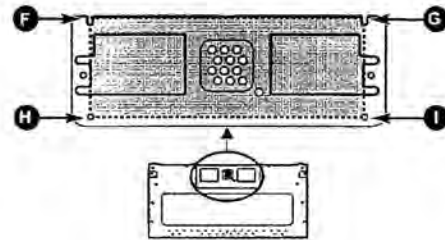

Figure 28
1. Place the mounting plate against the rear wall as described in step 5 item 1.
2. Using a pencil, put dots through slots F and G, and through holes H and I. Remove the mounting plate and draw lines extending through the points. This will give the location and size of the box cutout for the rear wall duct. See Figure 28.